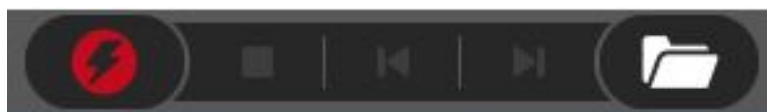

Fig. 9.25: Action bar with enabled *Event Based Waveform* Recording
If Event Based Waveform Recording is selected, a flash will appear within the sign of the record button (see Fig. 9.25).
- Select *Continuous Waveform Recording* as Recording Mode (see Fig. 9.25):